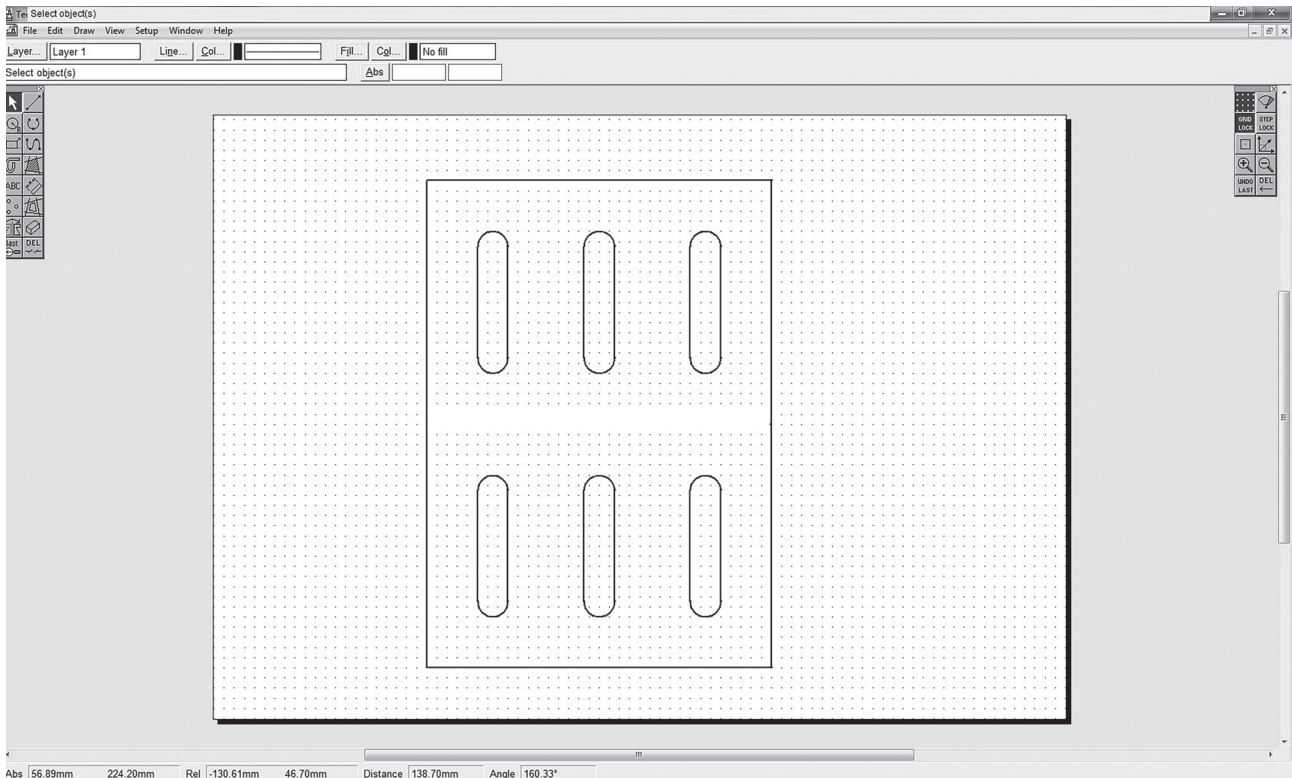

Fig. 11.7
- (f) The magazine rack is made from 4 mm thick acrylic sheet. Fig. 11.7 shows a CAD screenshot of the magazine rack that will be cut out using a laser cutter.